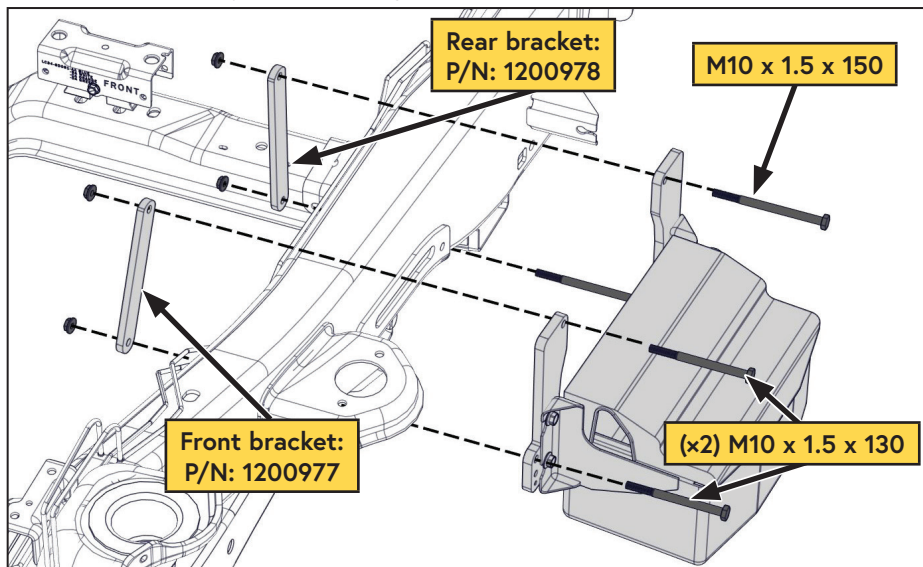

Figure 72 — Installing the battery box
- ☐ Raise the battery box and straps into position. The battery box mounts straddle the radius arm mount on the driver side of the frame. Remove any barbed cable ties as needed to allow the OEM wiring harness to pass over the top of the battery box cover (Figure 72).